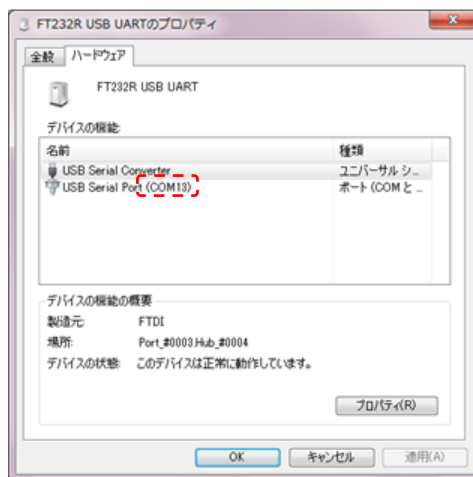

Figure 6 - COM Port No.
- (8) Click the "Hardware" tab on the "Properties" screen and check the displayed COM port number (Figure 6). Write down this number as this is necessary for initial setup of the data management software. (See Sec. (5-1) (5) ).